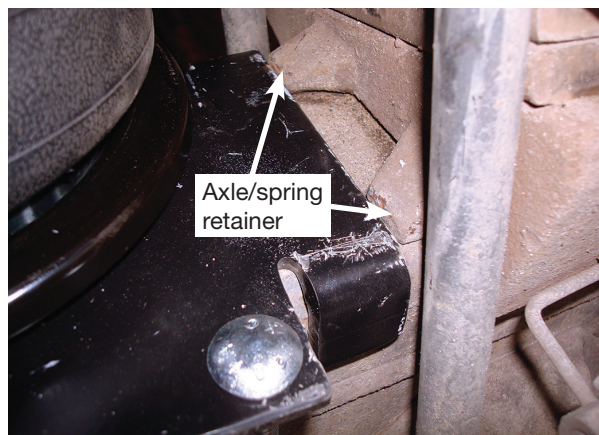

fig. 15
5. Push the lower bracket against the axle/spring retainer (Fig. 15).